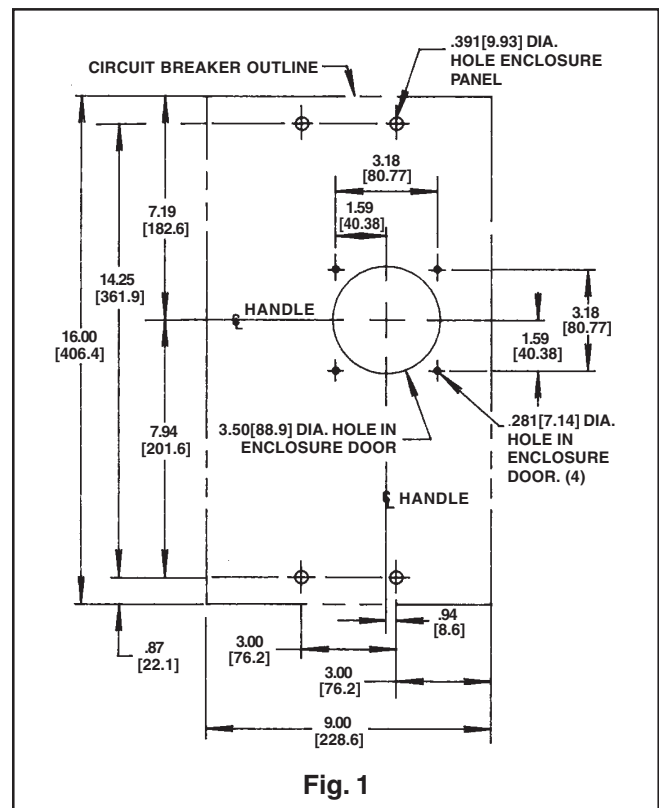

Fig. 1
MOUNTING PREPARATION: Fig. 1
2. Place mounting holes in panel and in door as shown in Fig. 1.